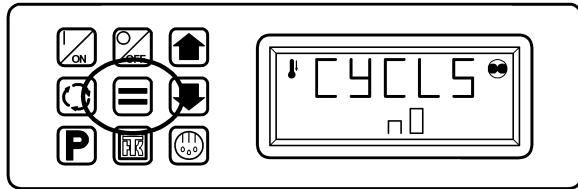

Figure 115: Press Enter Key
3. When the desired selection is shown, press the Enter Key (Figure 115) to load the setting. The display will briefly show [Lod] and then the new selection will briefly appear in the display.